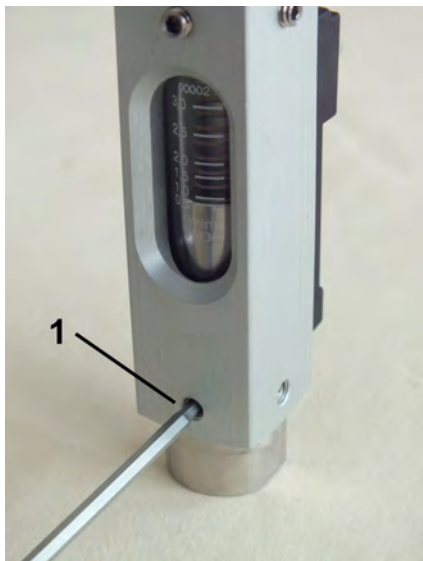

Fig. 36: Loosen screws
3. → Secure the device with one hand to ensure the sight glass does not slip out, then loosen the 4 hex head screws (Fig. 36/1) at the inlet side.